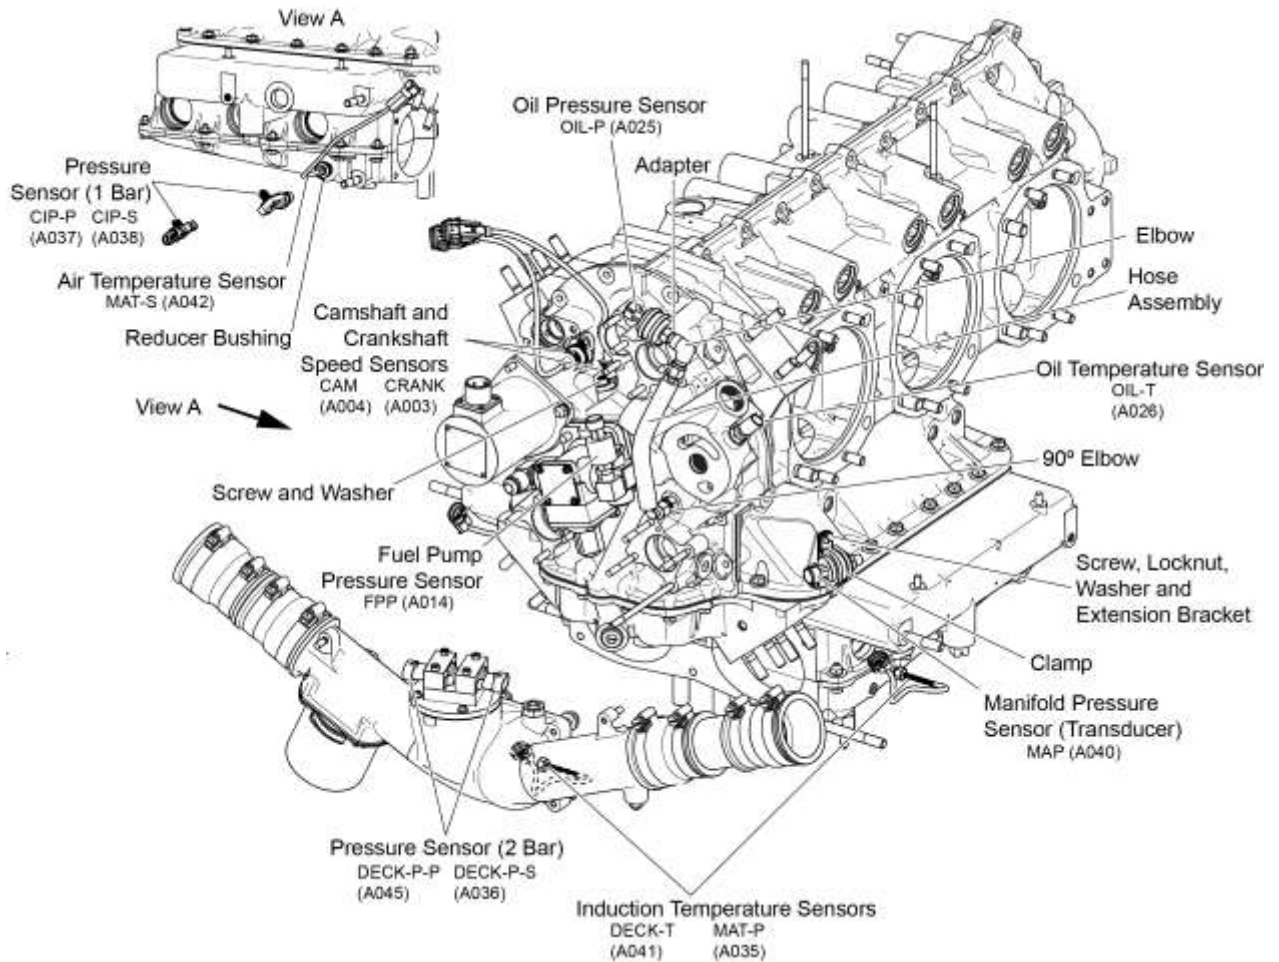

Figure 34
Oil Pressure Sensor Detail from Figure 34
- E. Disconnect the two harness plugs A037-P (CIP-P) and A038-P (CIP-S) from the pressure sensors (Figure 34) installed in the induction system between the airframe induction air filter and the turbocharger compressor inlets.